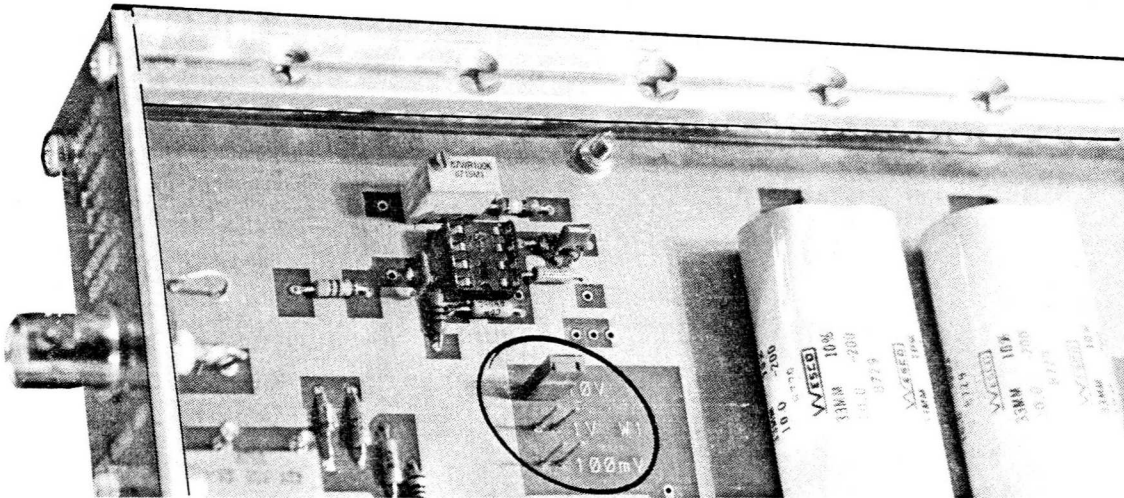

Fig. 3.1. Location of Analog Output Selection Jumper.
3. Locate jumper W1. It is located in the upper left-hand corner of the circuit board and is labeled W1. See Fig. 3.1.